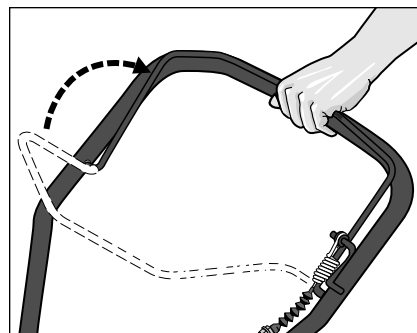

Figure 4-4
C. When the engine is running, pull and hold the control bail up against the handlebar (Figure 4-4) to activate the trimmer head.